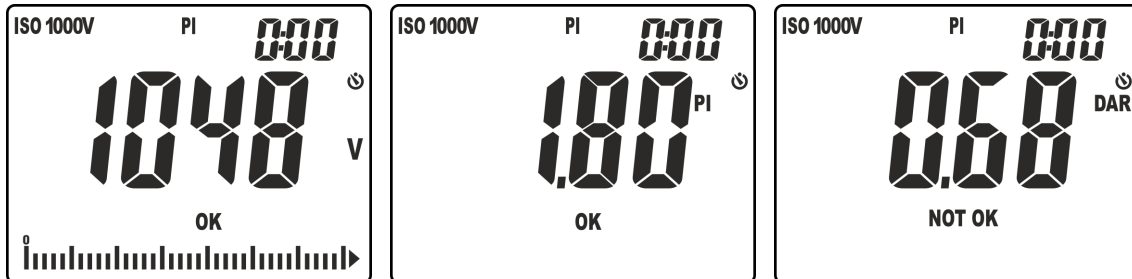

Fig. 24: Results of PI and DAR measurements
10. Press keys ▼/☼ or ▲/ZERO to display the real applied voltage, the value of parameter PI or the value of parameter DAR (see Fig. 24).